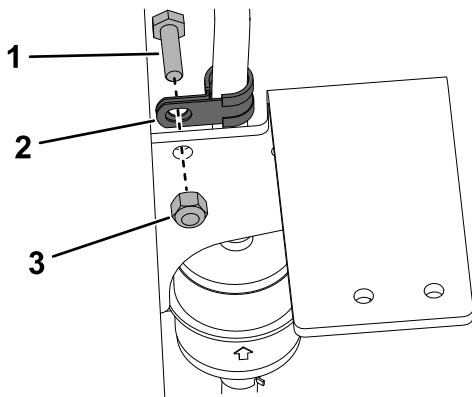

Figure 22
16. Secure the R-clamp to the plate as shown in Figure 22.